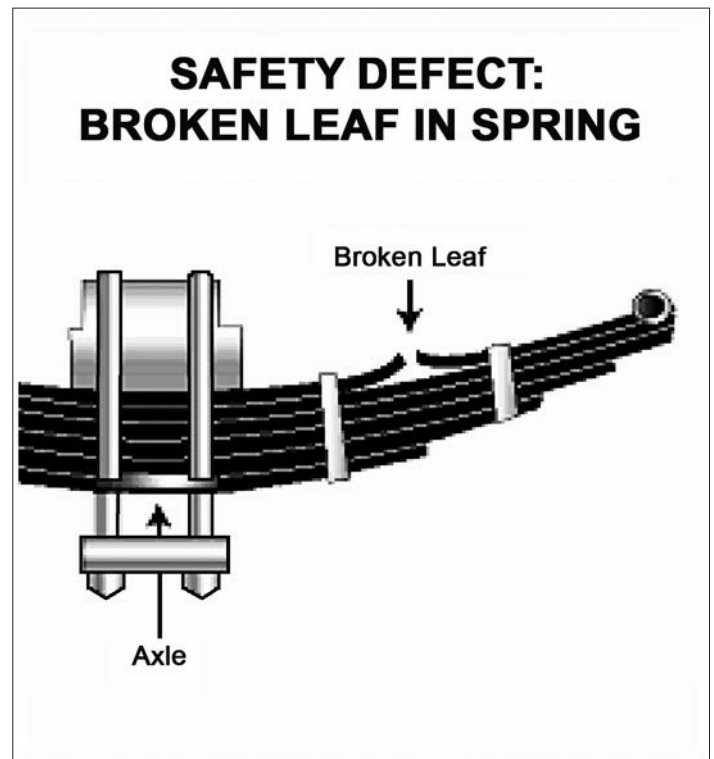

Figure 2.3
- Missing or broken leaves in any leaf spring. (Your vehicle may be placed out-of-service if ¼ or more of the leaves in any spring assembly are broken or if any leaf is missing or separated.) See Figure 2.3.